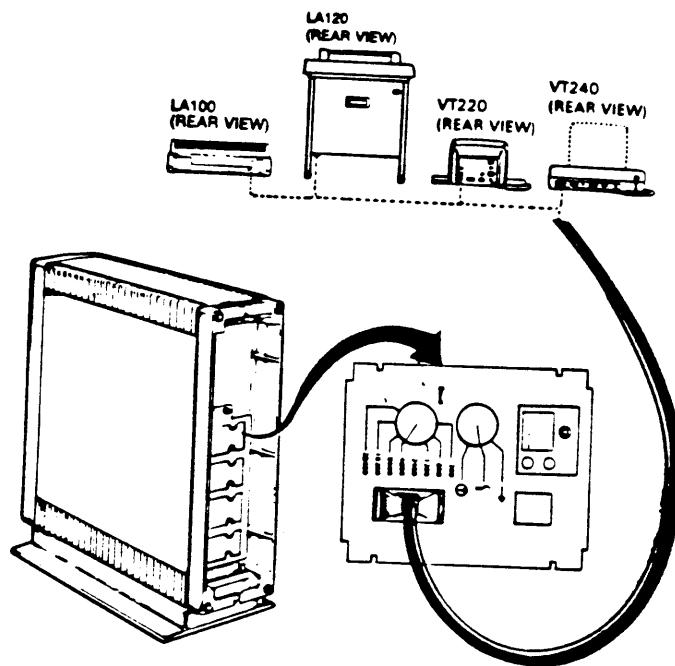

FIGURE 2-4. Connecting the Console terminal to the CPU Distribution Insert.
Step 8: Connect the console terminal cable to the console terminal and the unit as shown in Figure 2-4.